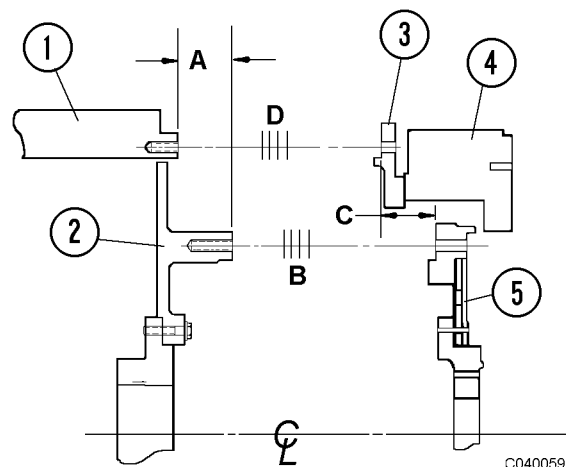

FIGURE 4-4. SHIM LOCATION
3. Refer to Figure 4-4. Move the engine crankshaft to the rear of its end travel.
Refer to Figure 4-4.
to be installed at location B, Figure 4-4.
to be installed at location D, Figure 4-4.